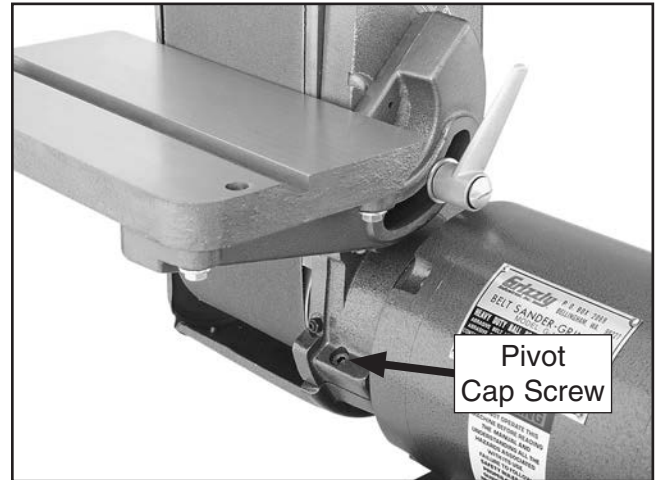

Figure 16. Location of the sanding belt pivot cap screw.
6. Loosen the sanding belt pivot cap screw shown in **Figure 16**, rotate the sanding belt assembly to the vertical position, then re-tighten the cap screw to hold it place.